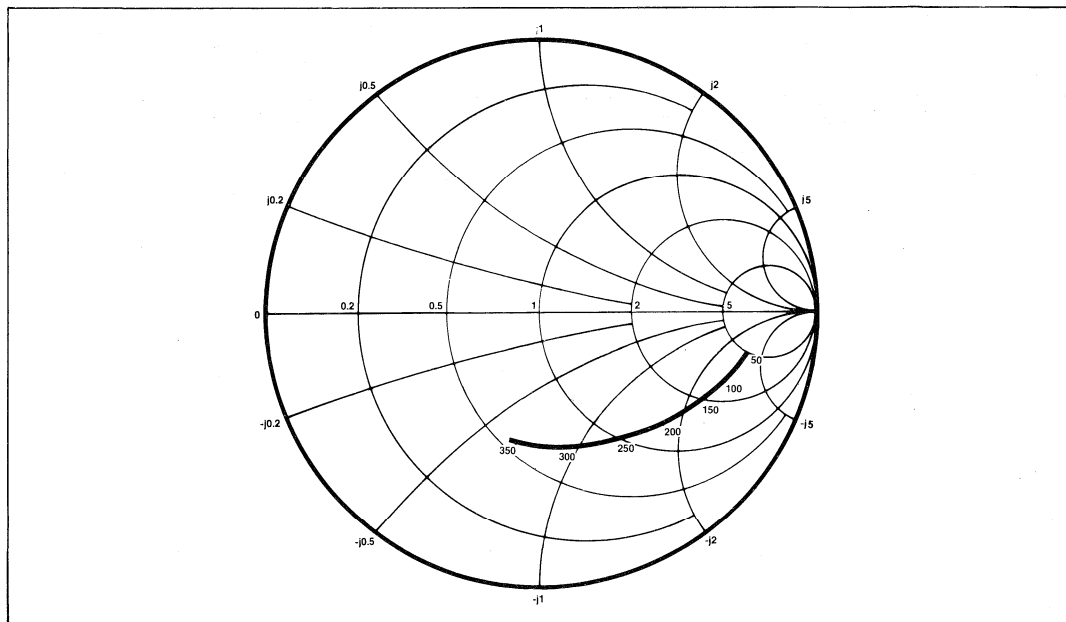

Fig.5 Typical input impedance. Test conditions: supply voltage -5.2V, ambient temperature 25°C, frequencies in MHz, impedances normalised to 50 ohms.
4. Input impedance is a function of frequency. See Fig. 5.